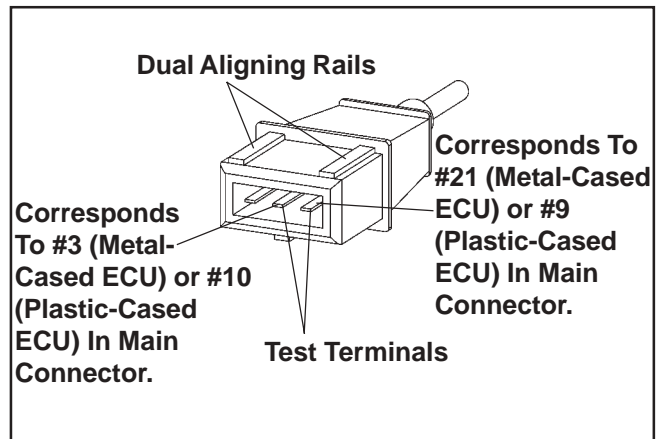

Figure 5B-5. Speed Sensor Connector.
6. Disconnect the speed sensor connector from wiring harness. It is the connector with one heavy black lead (see Figure 5B-5). Viewing the connector as shown (dual aligning rails on top), test the resistance between the terminals indicated. A reading of **750-1000 Ω** should again be obtained.